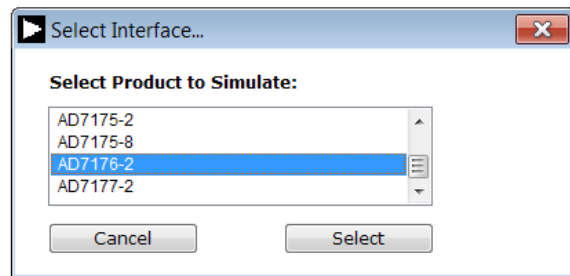

Figure 18. Evaluation Board Selection Simulation
4. The **AD717x Eval+** can also be used without connecting hardware. Click the **Simulation** button and the options shown in Figure 18 appear. The **Simulation** mode uses a software model and allows the AD7172-2, AD7172-4, AD7173-8, AD7175-2, AD7175-8, AD7176-2, or AD7177-2 to be evaluated.